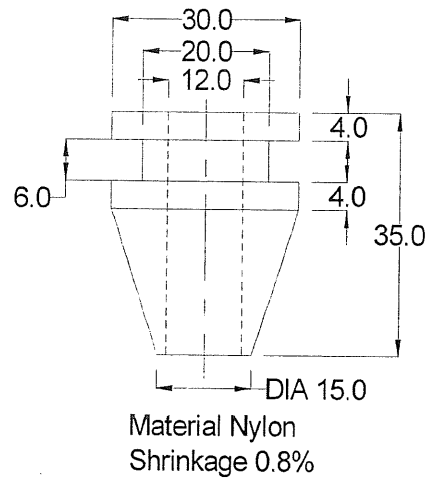

Figure PT3
- b) Calculate the shrinkage for the component in the Figure PT3 (7 marks)